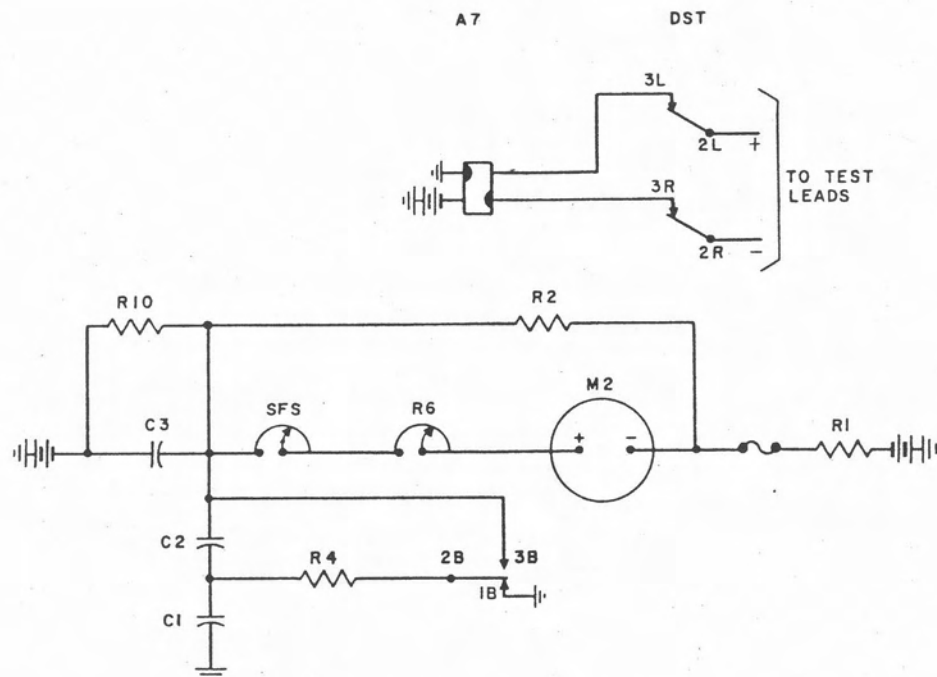

Figure 5. Dial speed test.
3.2.3.1 Dial speed test. Refer to figure 5. Adjust the dial test set. Operate the SET FULL SCALE key and adjust the SET FULL SCALE rheostat. Restore the SET FULL SCALE key and operate the DST key. It is now possible to give instruction to the testman for dialing. Read the milliammeter and give the testman the results. Repeat the test as necessary.